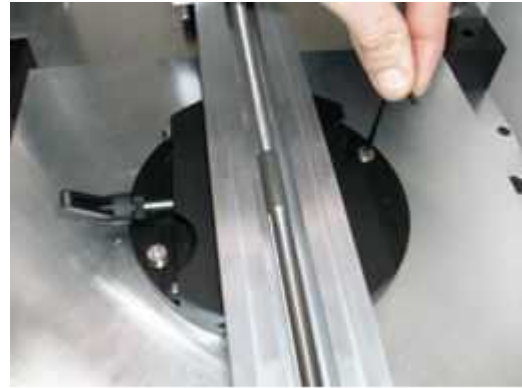

Figure 2
- 2 With the flat table off and all jigs removed unwind the vice until you can't go any further, undo the 2 allen screws with the allen key provided, see Figure 2.